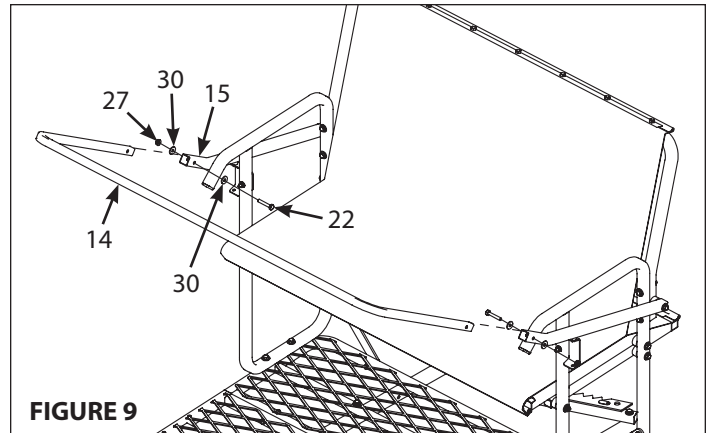

FIGURE 9
13. Insert the shooting rail rim (14) into the shooting rail receiver tubes (15) and secure together using two 1/4-20 x 1-1/2" bolts (22), four yellow washers (30) and two locknuts (27). **SEE FIGURE 9. You must now tighten all nut and bolt assemblies. Be sure not to over tighten or crush tubing when tightening.**
14. Sections are assembled on the ground in the following order; bottom ladder section (1); middle ladder section (2); top ladder section (3); assembled platform section. **SEE FINISHED LADDER.**